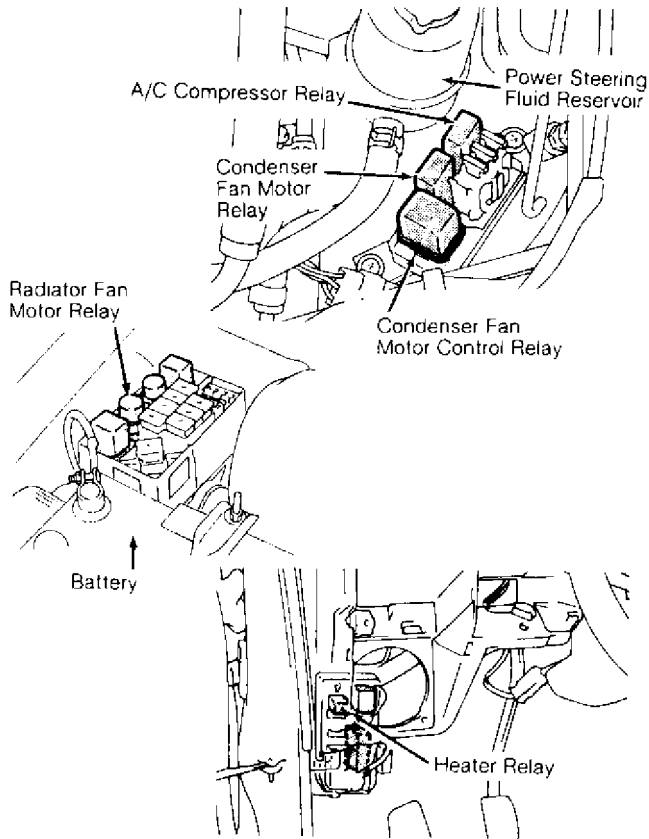
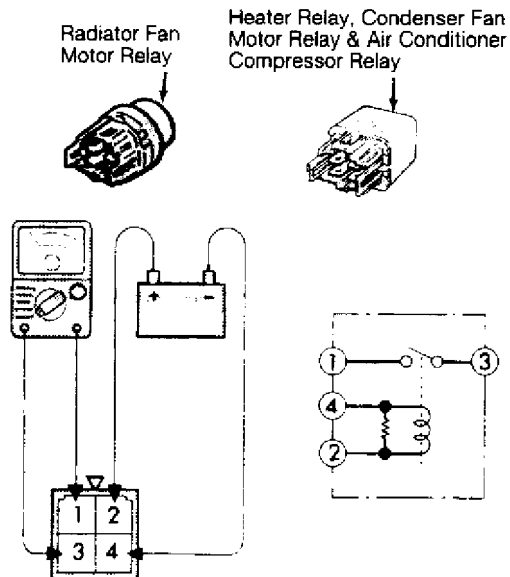
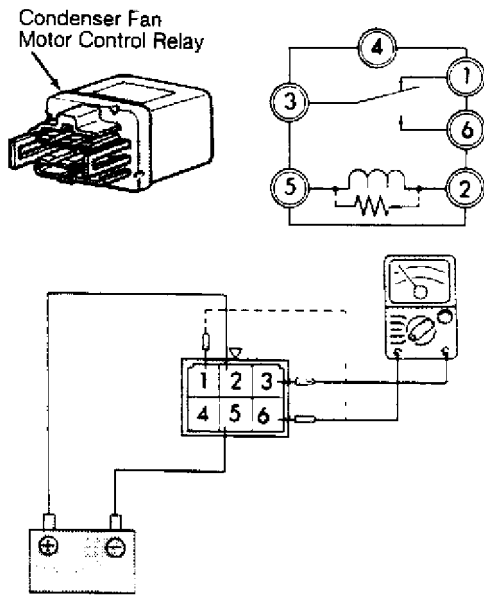

Fig. 5: Locating & Identifying Relays
Fig. 6: Testing 4-Terminal Relay
Fig. 7: Testing 6-Terminal Relay
1) Remove relay from holder. See Fig. 5. Using an ohmmeter, ensure continuity exists between terminals No. 2 and 4, and no continuity exists between terminals No. 1 and 3. See Fig. 6.
2) Connect battery voltage to terminal No. 2, and ground terminal No. 4. Ensure continuity exists between terminals No. 1 and 3. See Fig. 6. If continuity is not as specified, replace relay.
Remove relay from holder. See Fig. 5. Using an ohmmeter, ensure continuity exists between terminals No. 2 and 5 and terminals No. 1 and 3. Ensure no continuity exists between terminals No. 3 and 6. See Fig. 7. Connect battery voltage to terminal No. 2, and ground terminal No. 5. Ensure continuity exists between terminals No. 3 and 6, and no continuity exists between terminals No. 1 and 3. See Fig. 7. If continuity is not as specified, replace relay.